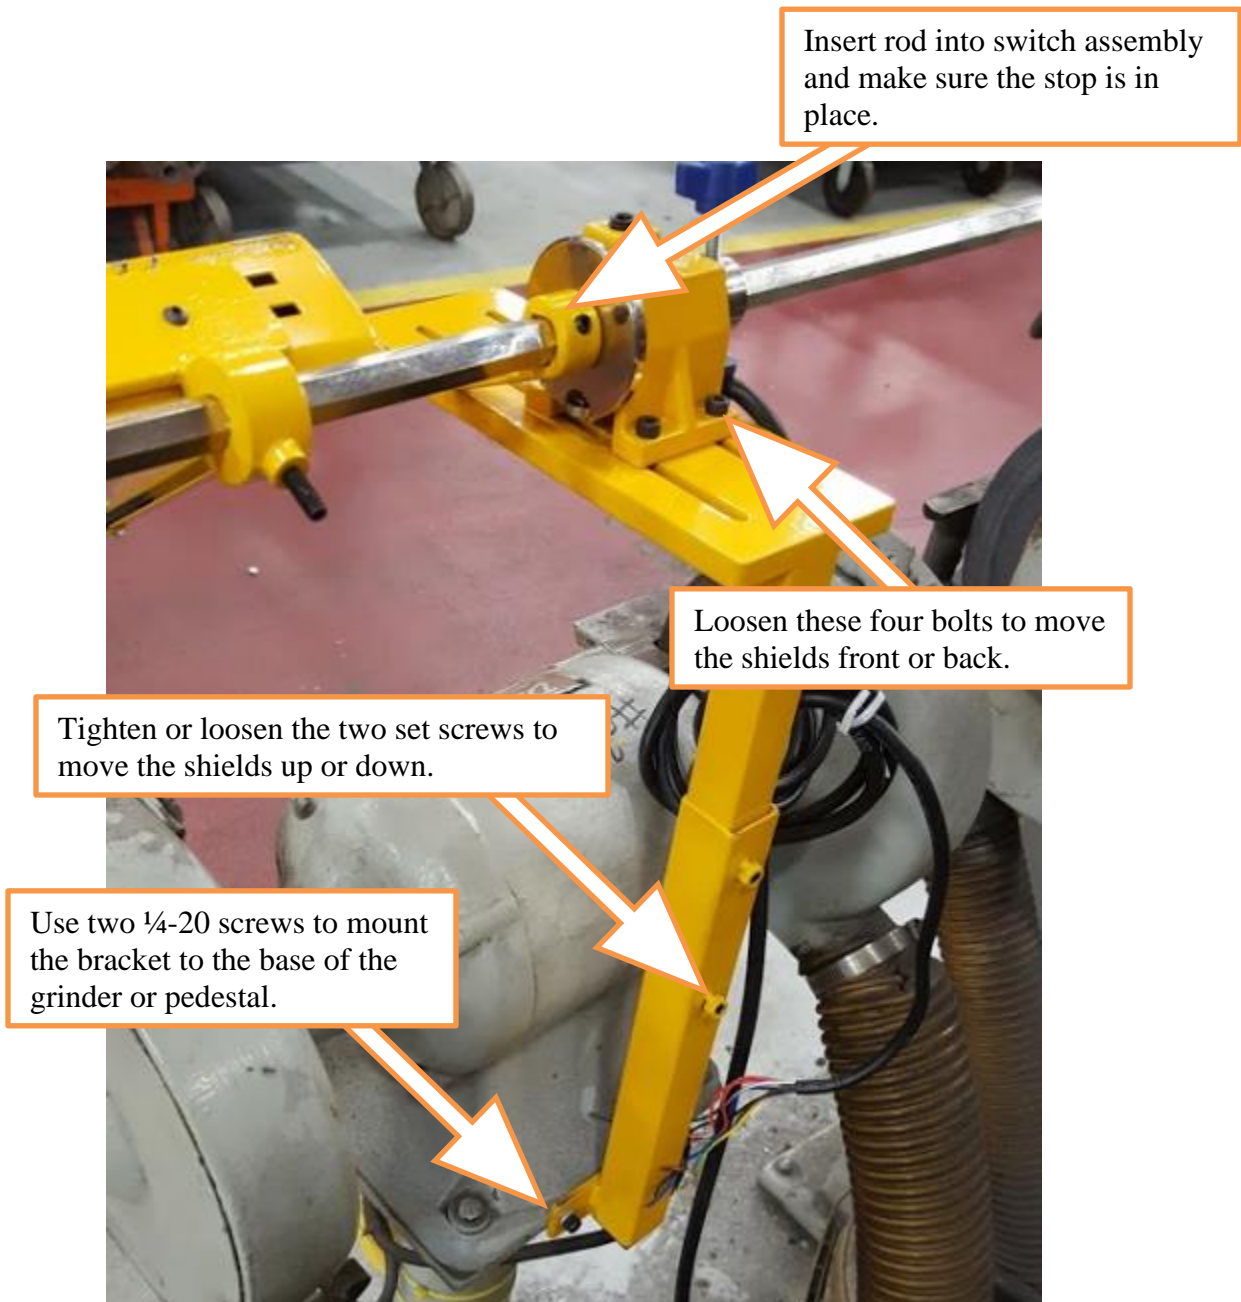

Fig. 1
2. Mount the L-Shaped Arm by using the two bolt holes. (Fig 1.)